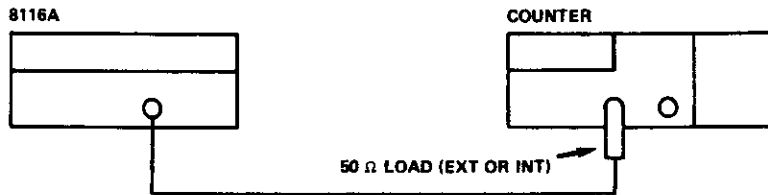

Figure 4-14. Test setup for Duty Cycle
1. Connect the equipment as shown in Figure 4-14.